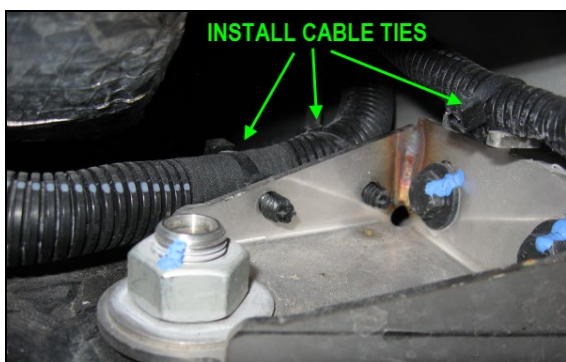

Fig.30
26. Follow the original routing for the wiring harness (over the bracket) and secure it with three (3) cable ties (Fig.30).